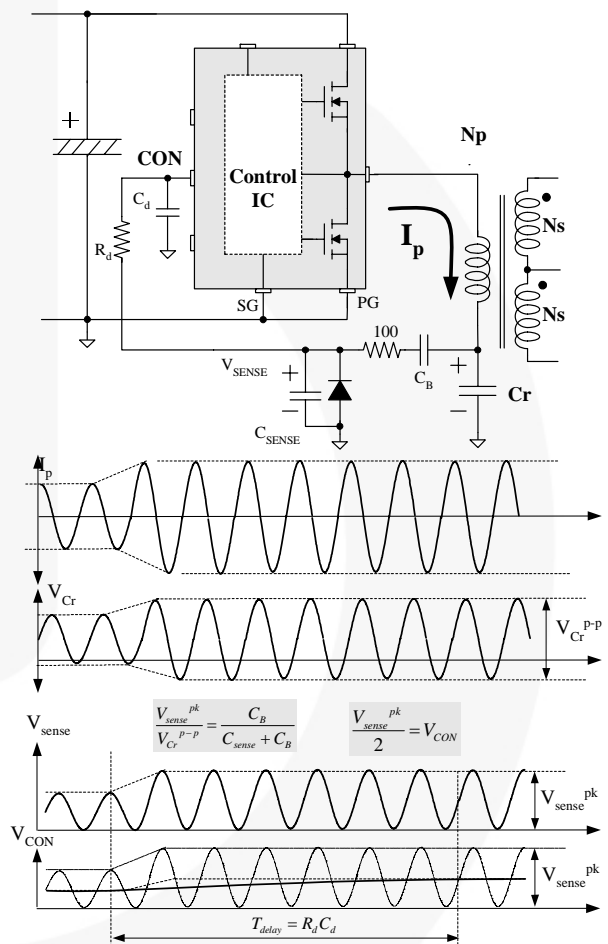

Figure 27. Current Sensing Using Resonant Capacitor Voltage
To minimize power dissipation, a capacitive voltage divider is generally used for capacitor voltage sensing, as shown in Figure 27.
**5.3 Overload Protection (OLP):** Overload is defined as the load current exceeding its normal level due to an unexpected abnormal event. In this situation, the protection circuit should trigger to protect the power supply. However, even when the power supply is in the normal condition, the overload situation can occur during the load transition. To avoid premature triggering of protection, the overload protection circuit should be designed to trigger only after a specified time to determine whether it is a transient situation or a true overload situation. Figure 27 shows a typical overload protection circuit. By sensing the resonant capacitor voltage on the control pin, the overload protection can be implemented. Using RC time constant, shutdown delay can be also introduced. The voltage obtained on the control pin is given as: